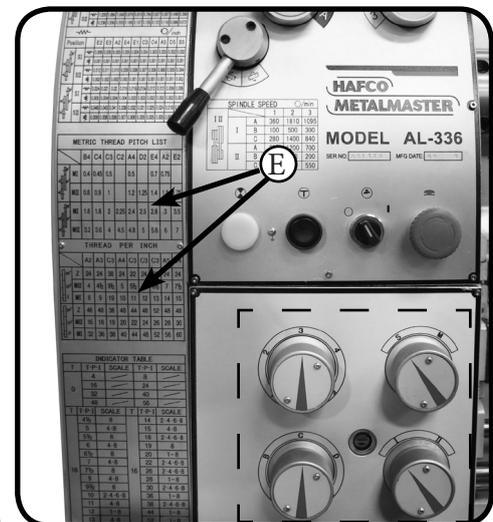

Fig. 36
- E. The Threading Charts:** Can be found on the head stock face display and cover the settings for both inch and metric threading (Fig. 36)